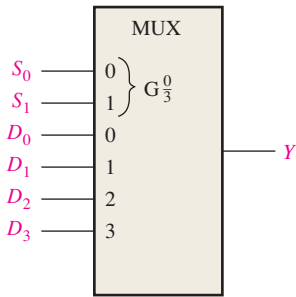
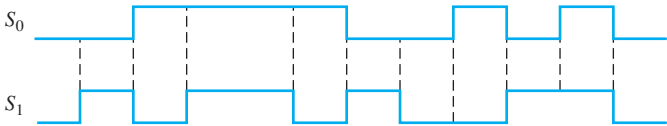

FIGURE 6-79
FIGURE 6-80
28. For the multiplexer in Figure 6-79, determine the output for the following input states: $D_0 = 1$, $D_1 = 0$, $D_2 = 0$, $D_3 = 1$, $S_0 = 0$, $S_1 = 1$.
29. If the data-select inputs to the multiplexer in Figure 6-79 are sequenced as shown by the waveforms in Figure 6-80, determine the output waveform with the data inputs specified in Problem 28.